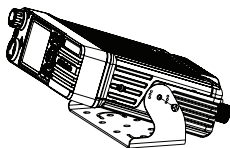

Figure 2
Use the 2 screw positions on the side of the mounting bracket to determine the appropriate angle of the transceiver (Figure 2). Position the transceiver, then insert and tighten the supplied hexagon SEMS screws (4) and flat washers (4).